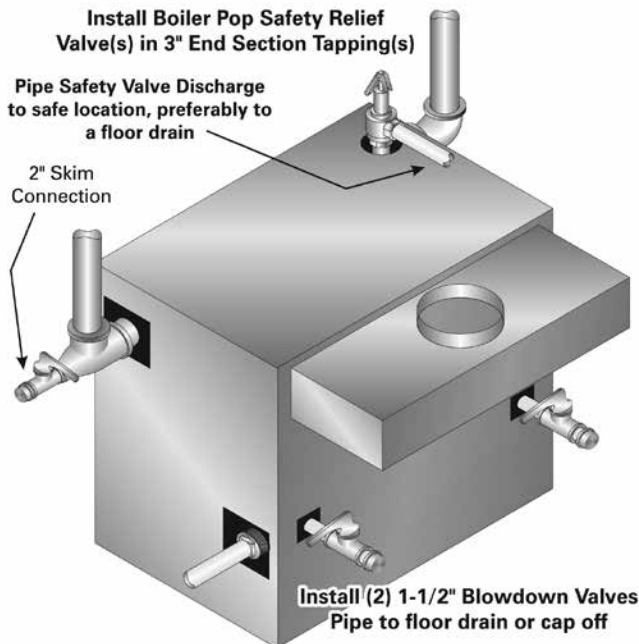

Figure 8.1: Blowdown Valve Piping
1. Install a 1-1/2" full port ball valve in each of the tappings provided at the lower back of the end sections. See Figure 8.1.